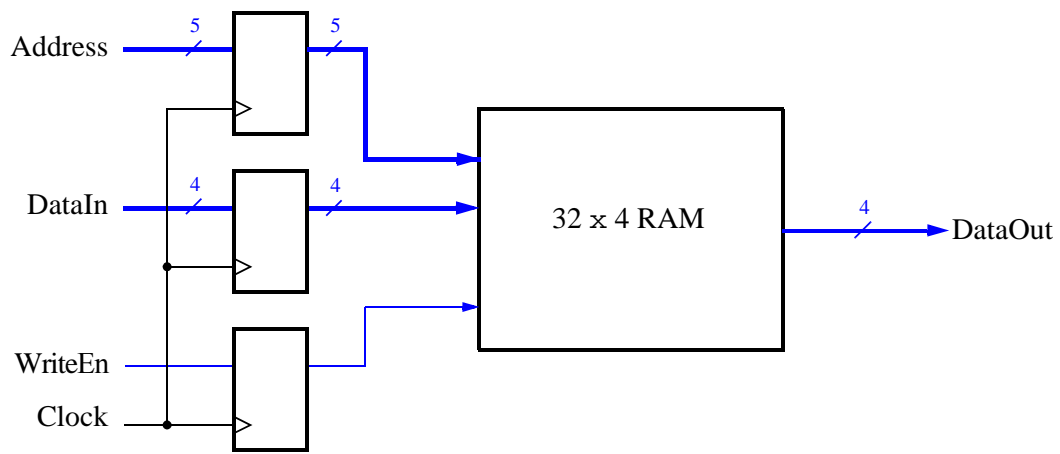

Figure 1: Schematic of the  $32 \times 4$  embedded memory module.
The memory module we would like to create is shown in Figure 1. It consists of a memory block, address register, data register and a control register. You can see that the address and input data are stored in a register as well as the Write Enable control signal. Using the registers means that the *DataOut* value will be stable for one clock cycle and allows the inputs to be changed after the rising clock edge in preparation for the next clock cycle. It is a small memory so that we can easily interact with it using the available switches and displays on the the DE1-SoC board.
8. Examine the newly created Verilog file. Observe that it declares a module with the required ports as shown in Figure 1. You can now instantiate the module into any design.